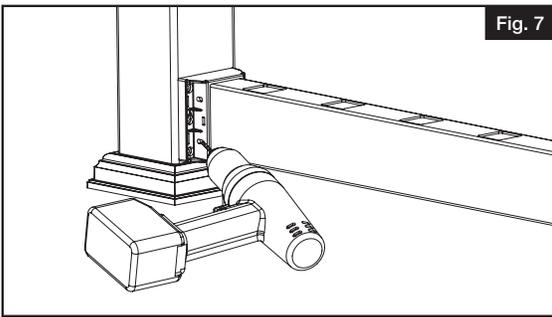

Fig. 7
- c. Ensure bracket is centered to post. Then, using 1/8" drill bit, pre-drill first bottom bracket screw hole through bracket hole and post (use the four outside corner holes) (Fig. 7).